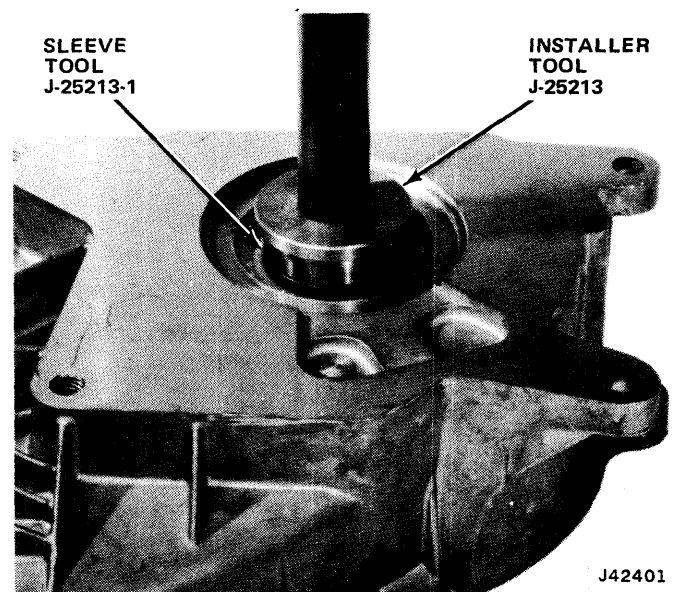

Fig. 8-47 Installing Drive Sprocket Front and Rear Oil Seals
(1) Remove seals using J-type puller or a smooth-ended pry bar. Do not damage case bore.
(2) Install rear seal (lip facing rearward) using Tool J-25213 and Sleeve J-25213-1 as driver. Install seal until sleeve shoulder touches case front surface.
(3) Remove Sleeve J-25213-1. Install front seal (lip facing forward) until driver shoulder touches case front surface (fig. 8-47).